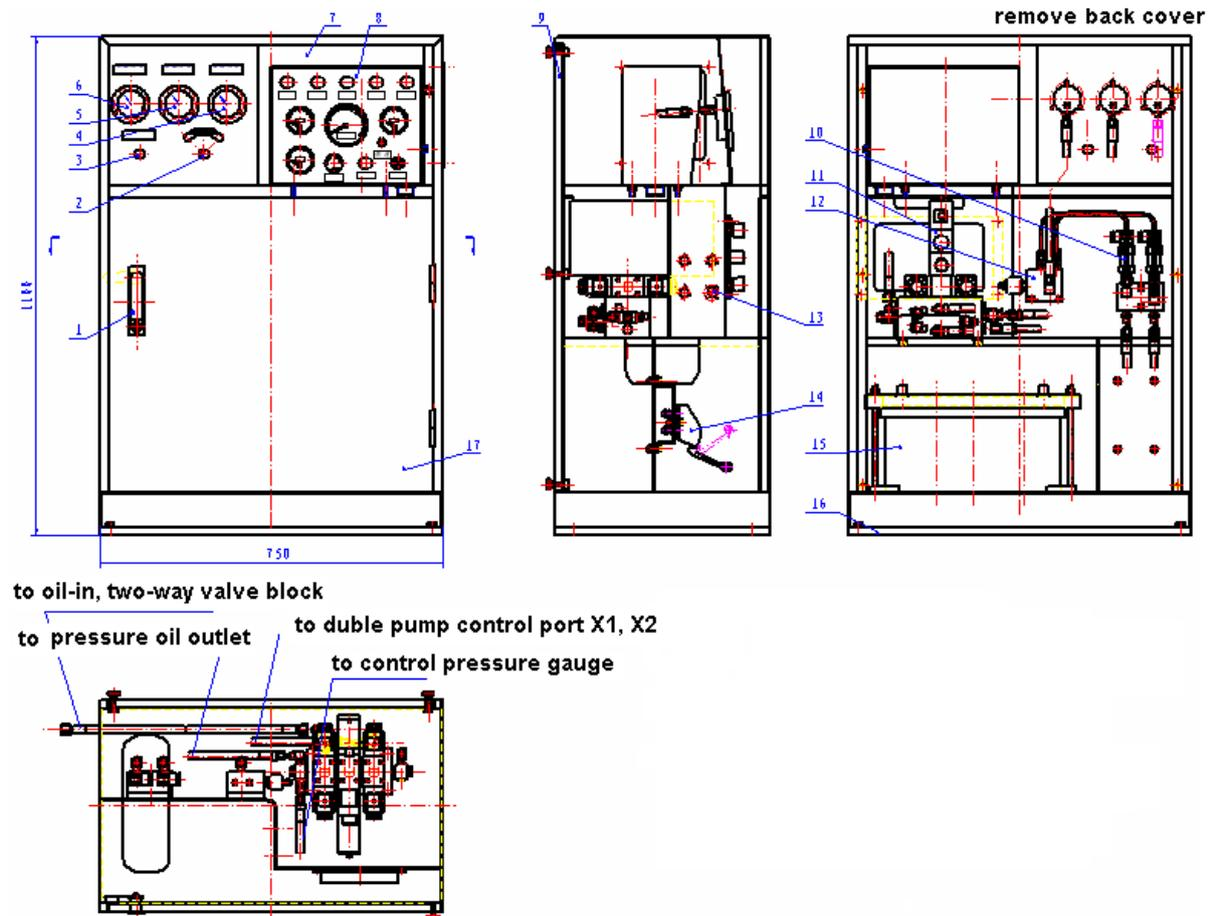

Fig 2-6 Local Control Console
The shape of instrument panel is indicated as in Fig 2-6, mainly composed of box body (7), the Power Supply (Battery Pack) (15), oil compensation, control, and system pressure gauges (4, 5, and 6), and the Diesel Engine Instrument (8), pump control valve set (12), etc. , and the Pressure Sensor (10) and the Pressure Release Valve (11) for the oil port of main pump are installed inside the instrument panel.
5) Turn the battery power supply switch (No.14, Fig.2-6) and switch on power supply.